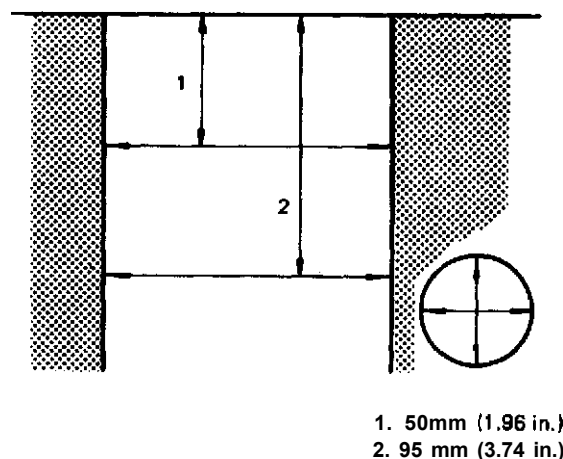

Fig. 3-5-28 Positions to be measured
- 2) Using a cylinder gauge, measure cylinder bore in thrust and axial directions at two positions as shown in Fig. 3-5-28.
Cylinder bore diameters measured in thrust direction at two positions as shown in Fig. 3-5-28 should be used for calculation of piston clearance.